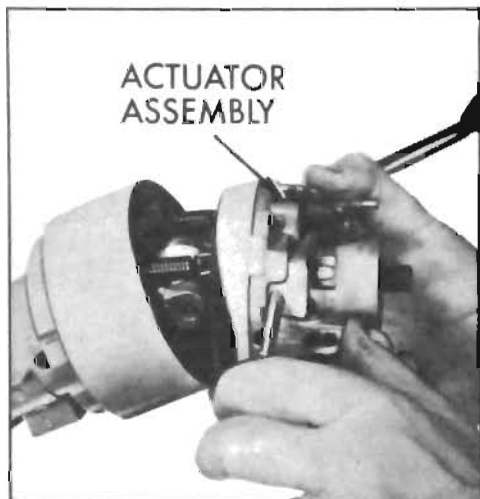

Figure 8-85—Removing Actuator Assembly
11. Lift tilt wheel release lever to disengage lock shoes from the support and remove actuator assembly. See Figure 8-85. Remove tilt springs.